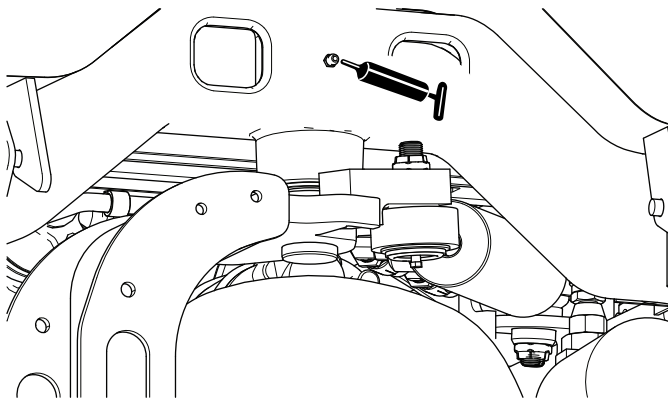

**Figure 53**
- Rear lift arm pivot and lift cylinder (2) (Figure 53)